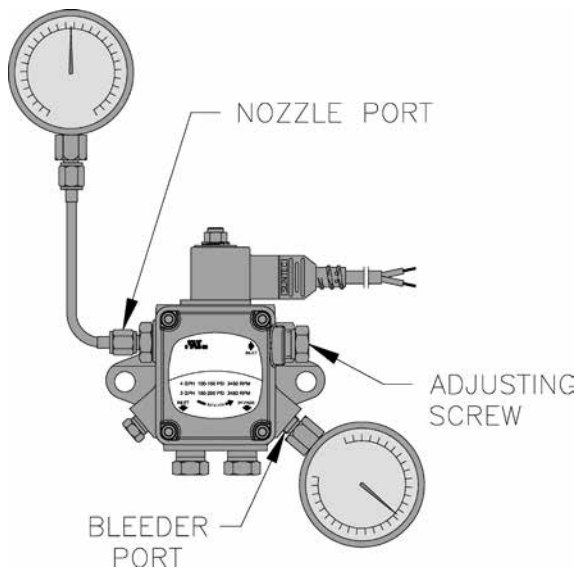

Figure 25: Adjusting Fuel Pump Pressure
- When checking a fuel unit's operating pressure, a reliable pressure gauge may be installed in either the bleeder port or the nozzle port. See Figure 25.